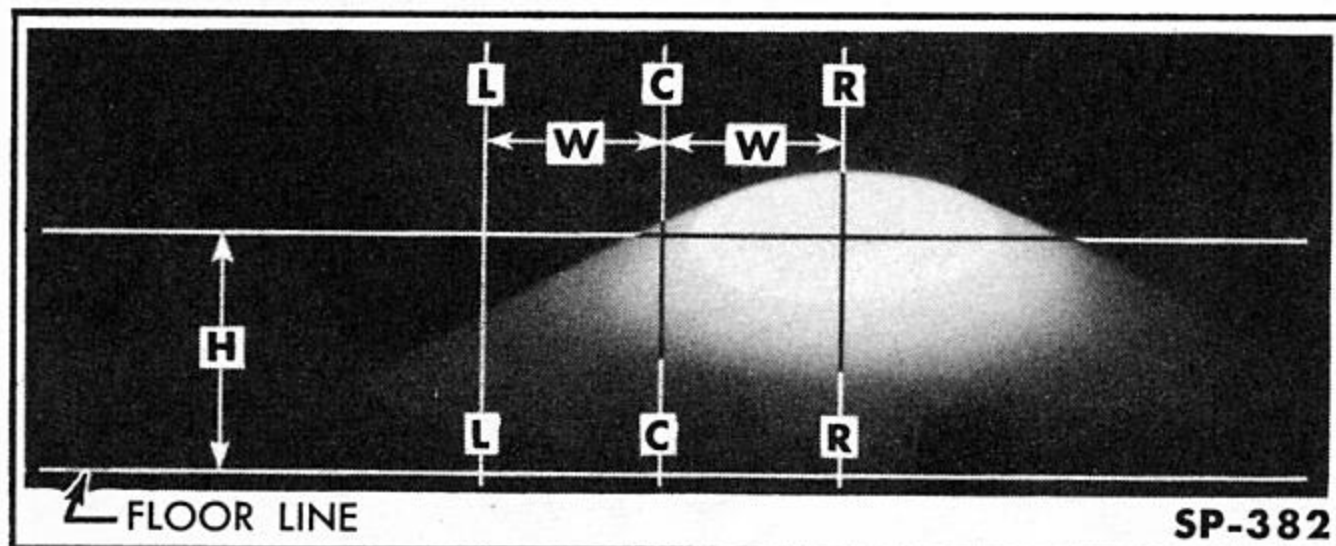

Fig. 306—Pattern of Properly Aimed Headlight
2. Measure the height of the center of the headlights from the floor. Draw a horizontal line on the wall three inches lower than the headlight centers (H in Fig. 306). Mark a point on this line in line with the center line of the vehicle and draw a vertical line (C-C) through the point. Measure to the right and left of the vertical line (C-C) a distance (W) equal to half of the horizontal distance between the headlight centers and draw two vertical lines (L-L and R-R).
3. Remove the retaining screw and the headlight door (outer rim). Turn the headlights on to the driving or upper beam. Cover the left headlight and aim the right one by turning the adjusting screws (Fig. 305) until the light beam has the same relative pattern on the wall as shown in Fig. 306. Then cover the right headlight and adjust the left headlight beam in the same manner, centering the beam pattern on the left vertical line. Install the headlight doors and retaining screws.